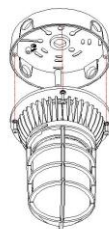

FIG.7
3. Screw the fixture back to the junction box by screws. **See FIG.7**